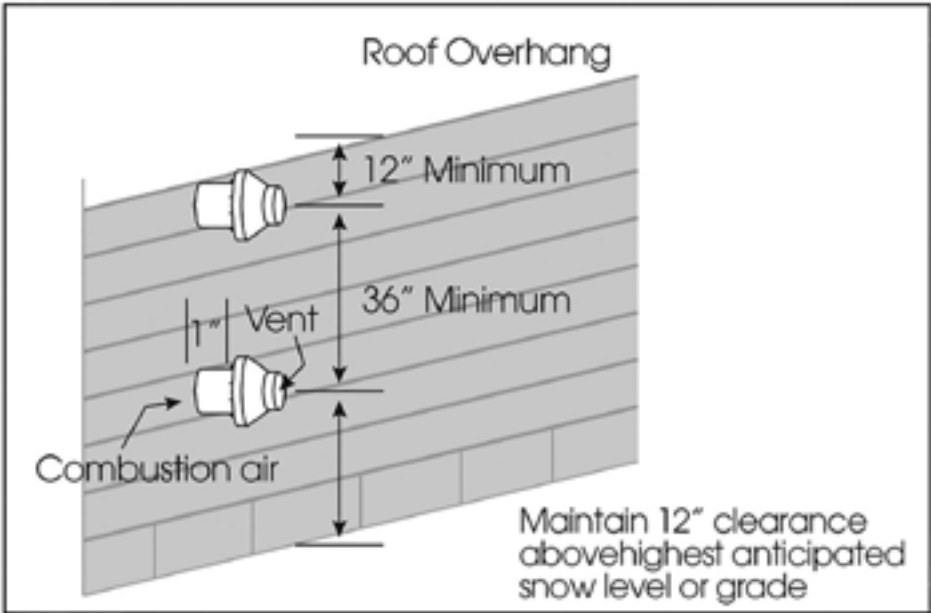

Figure 4: Sidewall Termination for Multiple Concentric Vents (Vertical)
- Refer to Figures 4 & 6 when venting multiple units using multiple Concentric Vents.
- Maintain clearance dimensions as shown in Figure 4, 5, 6 & 7. Refer to CSA B149.1 for details on required clearance above average snow fall or grade.